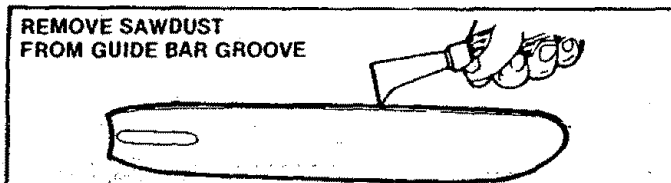

Figure 45
- c. Remove sawdust from the guide bar groove periodically with a putty knife or a wire. Figure 45.